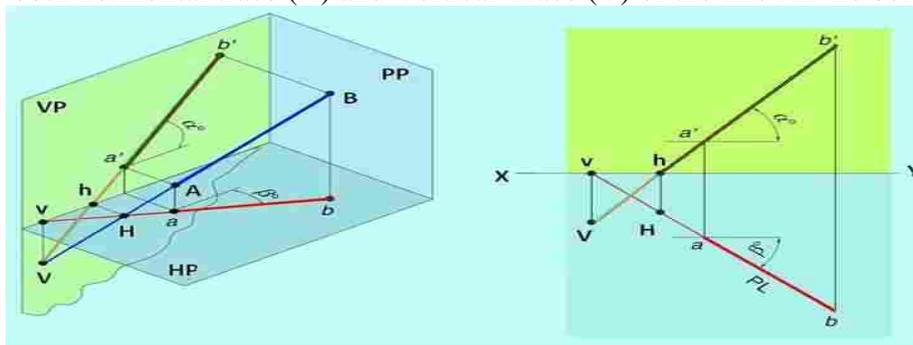

Figure 6 Vertical trace and horizontal trace of line AB which is inclined to both H.P. & V.P.
Figure 6 shows the Vertical trace (V) and Horizontal Trace (H) of Line AB inclined at ϕ to HP and θ to VP. The line when extended intersects HP at H, the horizontal trace, but will never intersect the portion of VP above XY line, i.e. within the portion of the VP in the 1st quadrant. Therefore VP is extended below HP such that when the line AB is produced it will intersect in the extended portion of VP at V, the vertical trace. In this case both horizontal trace (H) and Vertical Trace (V) of the line AB lie below XY line.